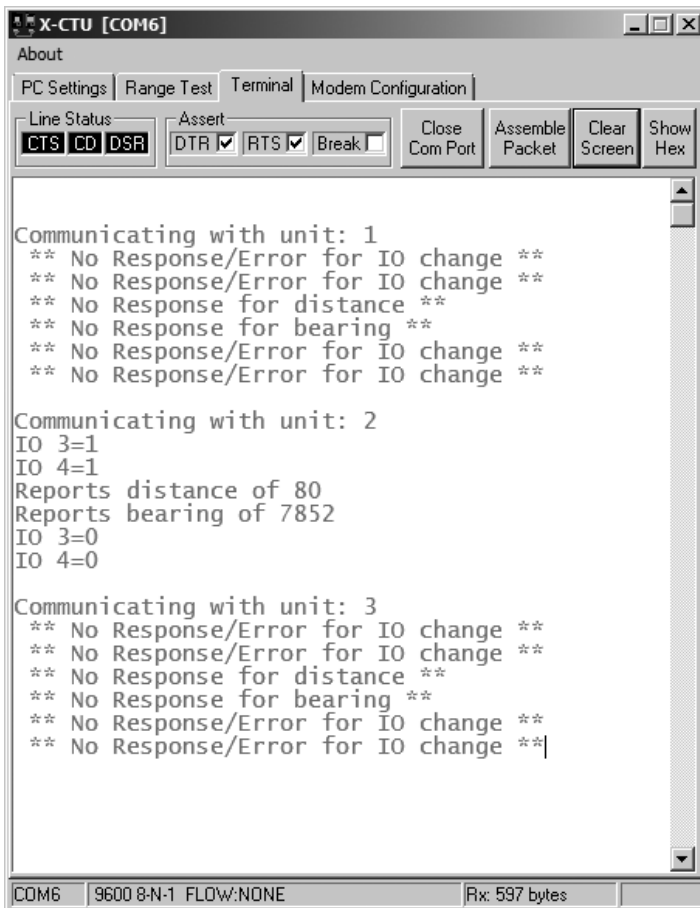

Figure 5-15 Coordinator responses from automated polling.
- ✓ Wait and watch... you should see results similar to Fig. 5-15. Note that in this test only an end device with a `MY_addr` of 2 is responsive.